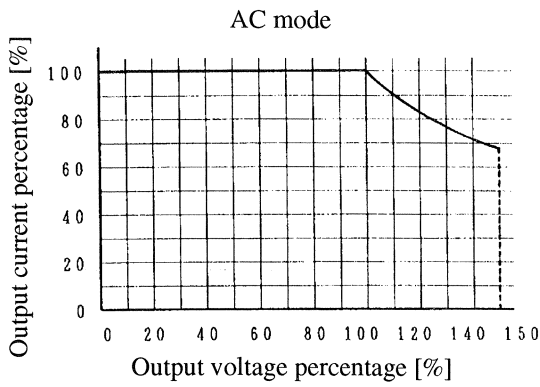
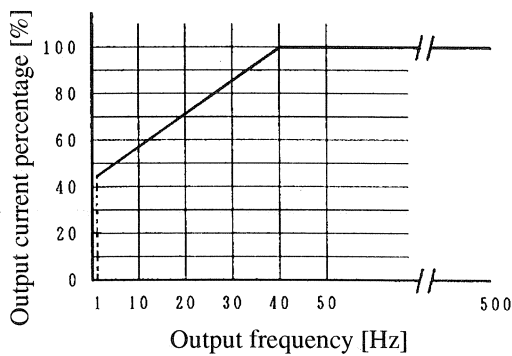

Fig. 1
Fig. 3
When output voltage is 100 to 150 V/200 to 300 V (in AC mode) or 100 to 212 V/200 to 424 V (in DC mode), the output current is reduced by the output voltage. Figs. 1 and 2
When the output frequency is 1 to 40 Hz, the output current is reduced by output frequency (in AC mode). Fig. 3
- The output current percentage in Fig. 1 and Fig. 3 takes priority the smaller of the two Figs. (This applies only in the AC mode.)